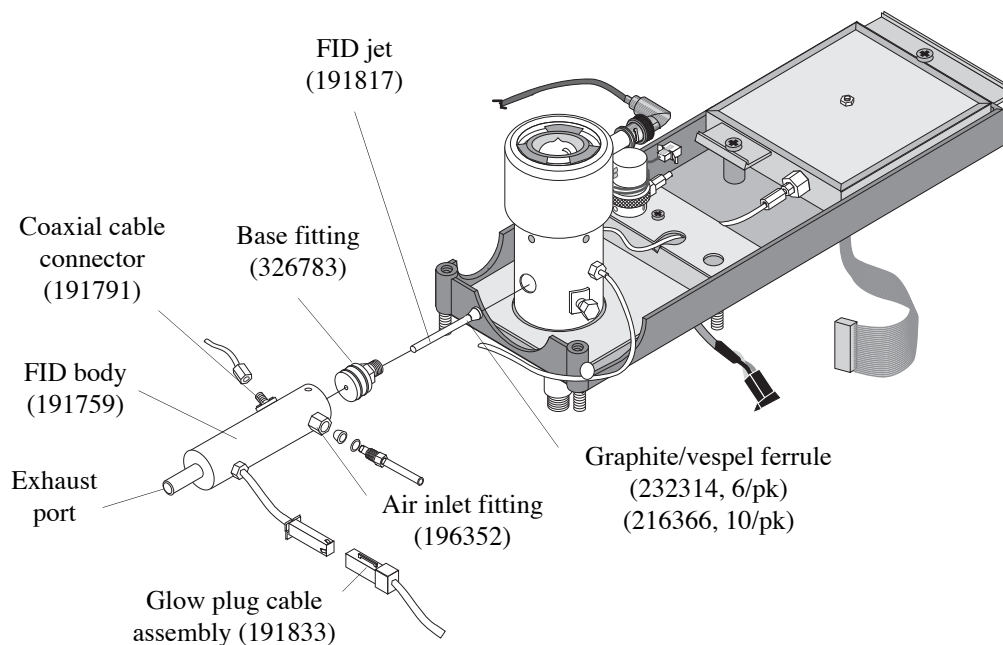
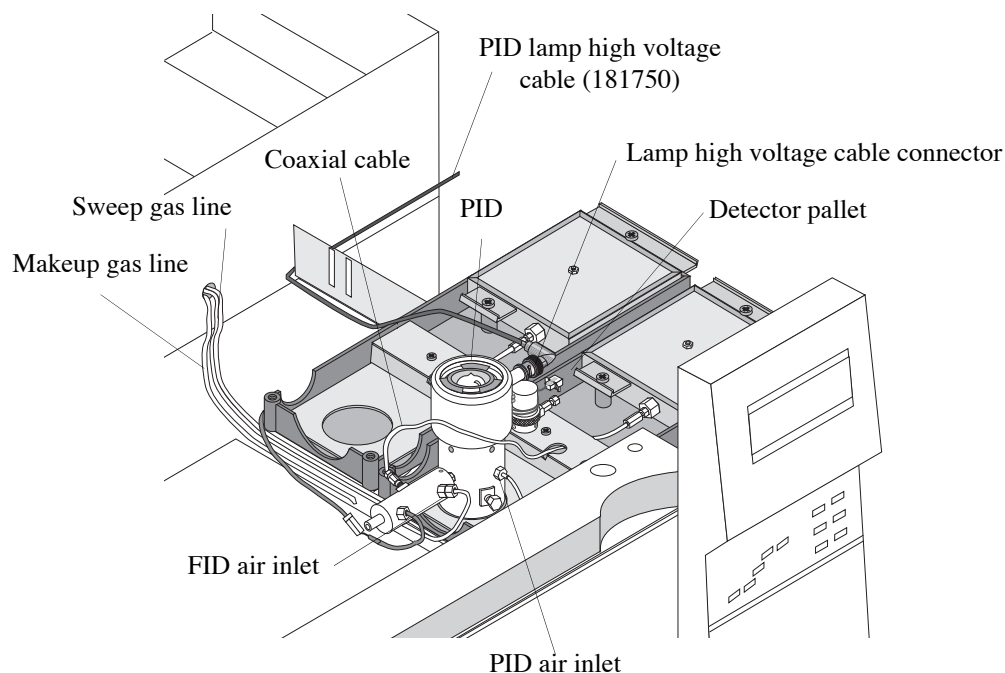

Figure 3.23. Model 4450 PID/FID assembly
Figure 3.25. PID/FID mounted on an Agilent 6890 GC
2. Remove the FID base fitting from the FID body by loosening the Allen set screw using a 0.050" Allen wrench (Figure 3.23).
4. Screw the FID base fitting (with the two installed O-rings) over the jet (with the graphite/vespel ferrule) into the exhaust port of the PID (Figure 3.23). Verify the jet is firmly seated against the recess in the PID exhaust port. Carefully tighten the base with a $\frac{5}{16}$ " wrench.
1. Prepare an air delivery line by cutting a section of 1/16" stainless steel tubing (PN 193409, supplied in the detector gas kit) long enough to reach from the OIM pressure control manifold to the air inlet fitting on the side of the FID (Figure 3.25).
2. Attach the free end of the air gas line to the air inlet fitting (PN 196352) on the FID (Figure 3.25).
4. Disconnect the 5" electrometer cable (PN 252544) from the PID and the PID's (front) electrometer board. Connect one end of the 6.5" electrometer cable provided in the FID startup kit (PN 206110) to the PID. Connect the other end to the electrometer board back (Figure 3.25).
5. Connect the 9" electrometer cable (PN 285908) to the FID's coaxial connector (Figure 3.23) and to the front electrometer board (Figure 3.25).